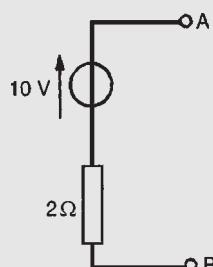

Figure 13.68
**Problem 18.** Convert the circuit shown in Fig. 13.68 to an equivalent Norton network.
If terminals AB in Fig. 13.68 are short-circuited, the short-circuit current  $I_{SC} = 10/2 = 5\text{ A}$